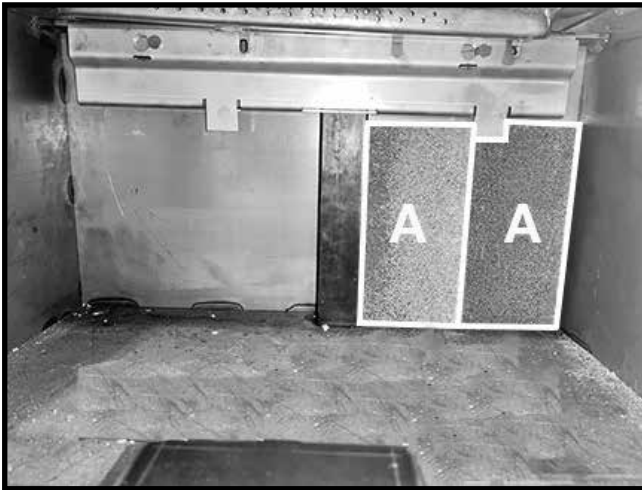

Figure 26: Right side rear wall brick A placement.
1. Stand two "A" firebricks vertically behind the right tab located on the brick rail. Slide the firebrick toward the center of the rear wall (Figure 26).